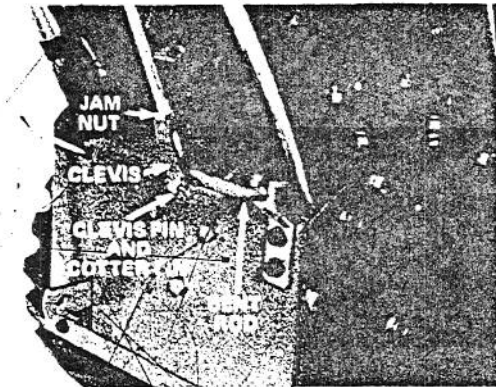

Figure 5
2. Rotate clevis at end of auger drive control rod until holes in clevis line up with hole in bent rod (Fig. 5). Next, secure clevis and bent rod together with clevis pin and cotter pin (Fig. 5).
3. Tighten the jam nut firmly against top of clevis (Fig. 5).